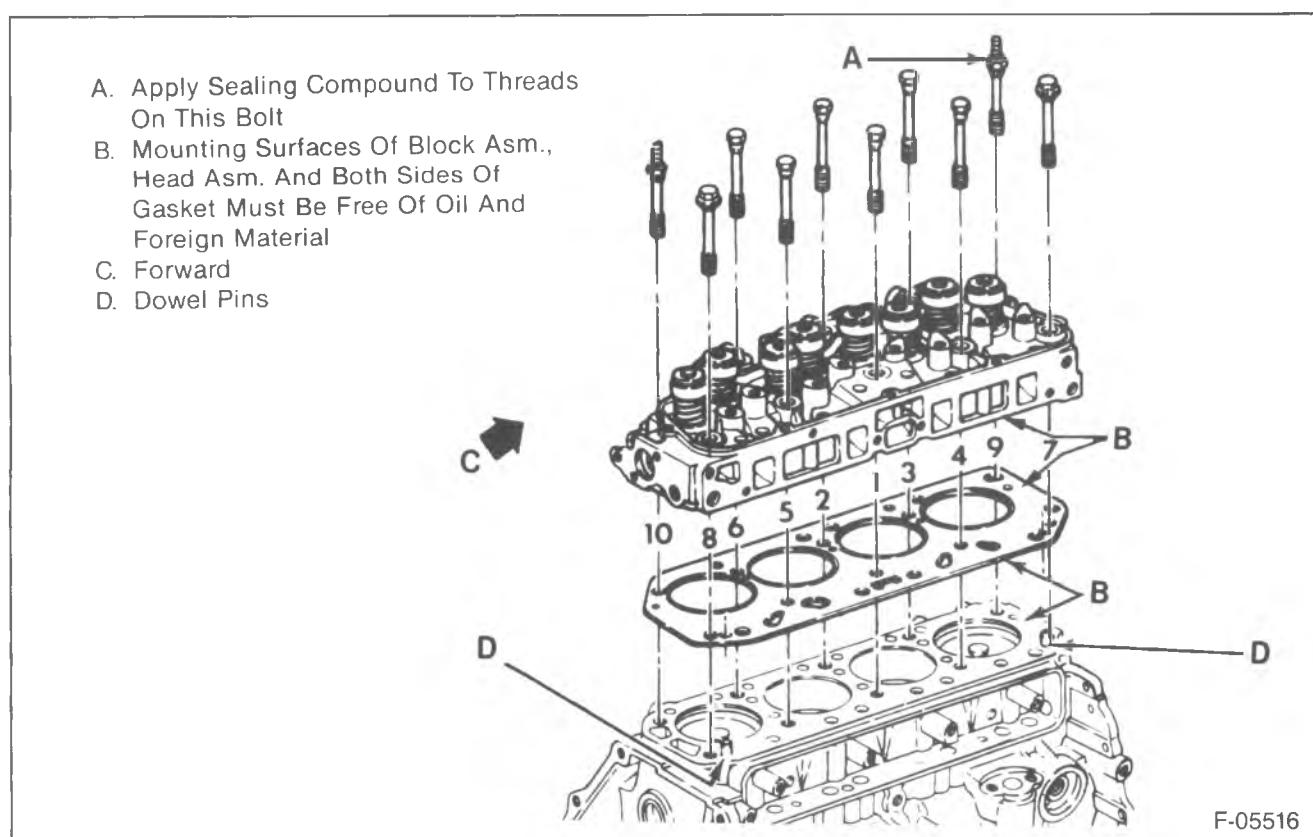

Figure 53—Cylinder Head Installation
- 3. Cylinder head bolts. Refer to figure 53.
1. All head bolts to 25 N·m (18 ft. lbs.) in the specified sequence (refer to figure 53).